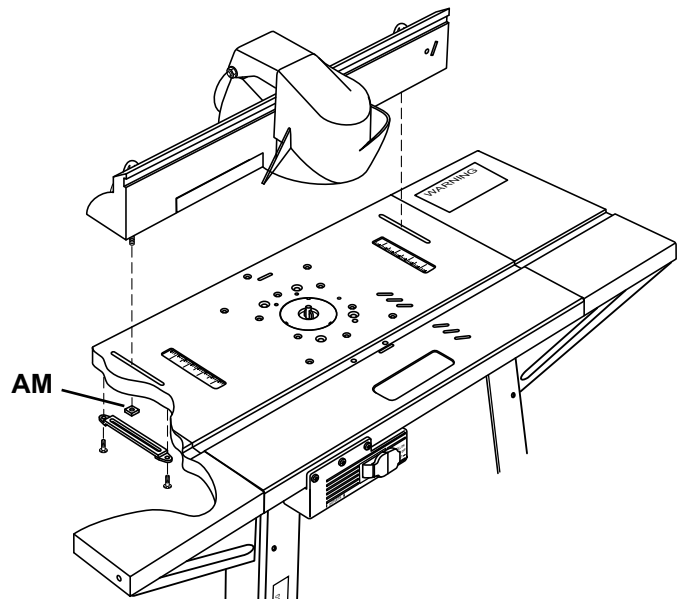

Figure 30
1. Place the fence on the router table with the front of the fence (flat side) facing the front of the router table. See Figure 30.
2. Insert knob screw into the hole in the tabletop and through the nut (AM) in the fence guide mounted to the underside of the table. Repeat for other knob.